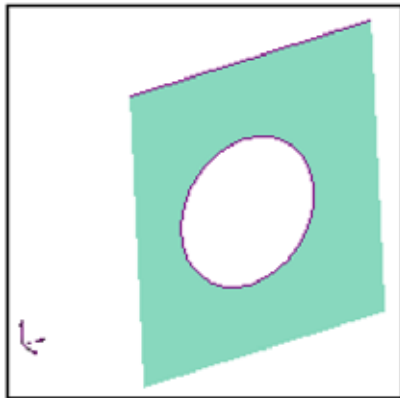

Figure 43: Create a hole by boundary
6. Click **Apply** to create a hole in the region, as shown in Figure 43.